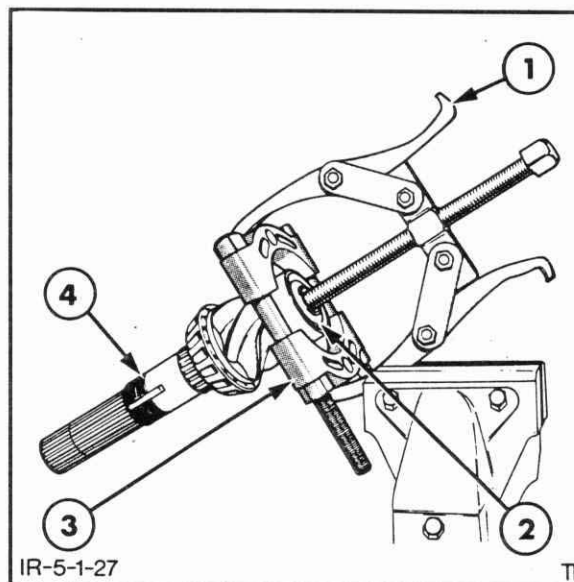

Figure 5-27
3. Remove the lock ring from the rear end of the pinion gear and, using Tool #1002 or 9198 and 951 or 9190, pull the pilot bearing off the end of the shaft, Figure 5-27.